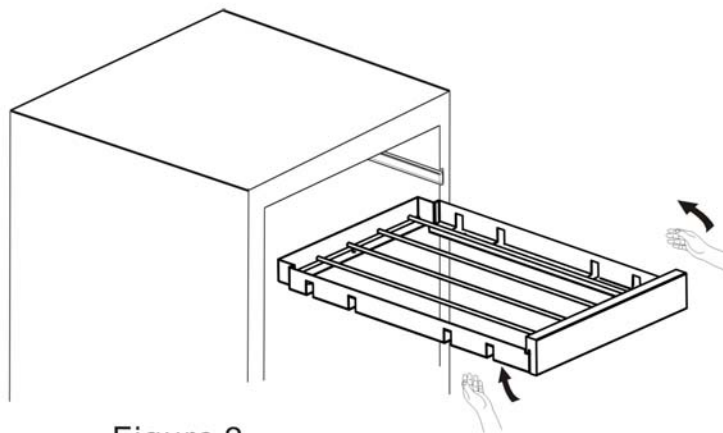

Figure 2
- Gently push the rack into the sliders. (Fig. 2)